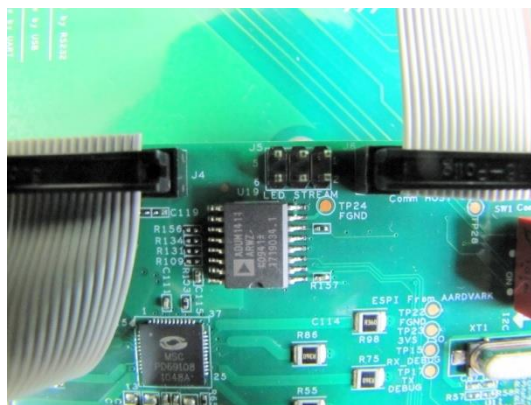

Figure 16: LEDs Indication
9. LEDs Indication (see Figure 16)